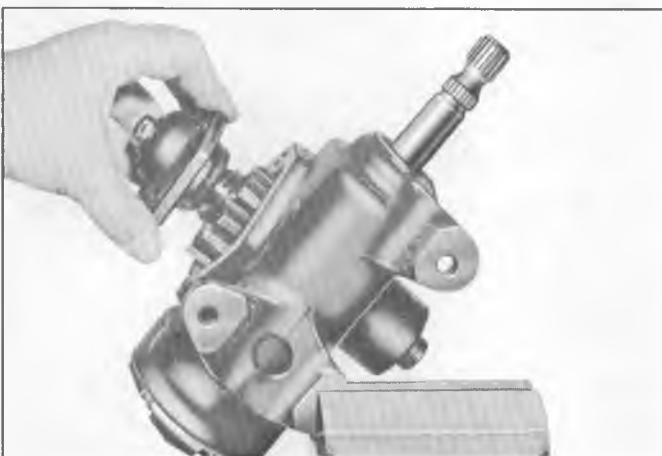

Fig. 4—Removing Sector Shaft
4. Pull the side cover with the sector shaft from the housing (fig. 4).